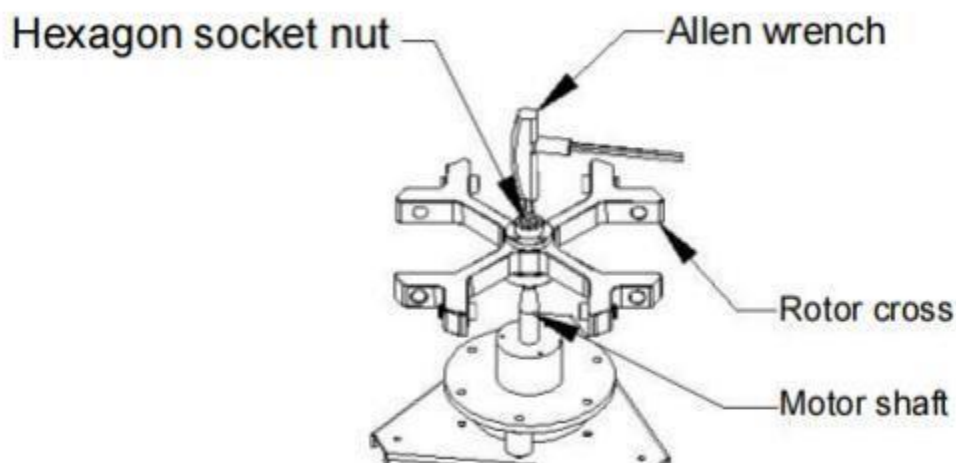

Figure 1.4
- Rotor installation: Take the rotor out of the packaging box, carefully check whether the rotor is damaged or deformed during transportation, hold the rotor body with both hands, and place the rotor vertically and smoothly on the rotor seat; hold the rotor body with one hand, use the other hand to insert the hexagonal handle into the hexagonal nut in the center of the rotor, and tighten it clockwise to lock the rotor on the shaft, so that the cone surface of the rotor body is in close contact with the cone surface of the drive shaft. As shown in Figure 1.4